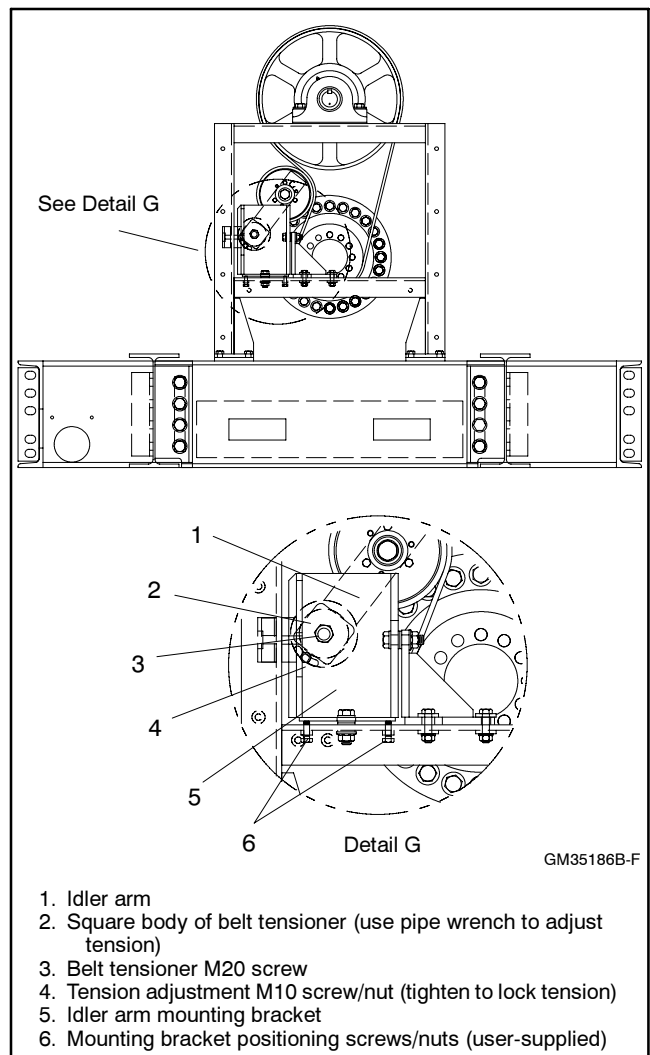

Figure 3-27 Belt Tension Adjustment
- b. Loosen the belt tensioner M20 screw and tension adjustment M10 screw/nut to remove the tension on the idler arm if not already done. See Figure 3-27.
- m. Remove the user-supplied positioning screws and nuts installed in the bottom of the mounting bracket. See Figure 3-27.